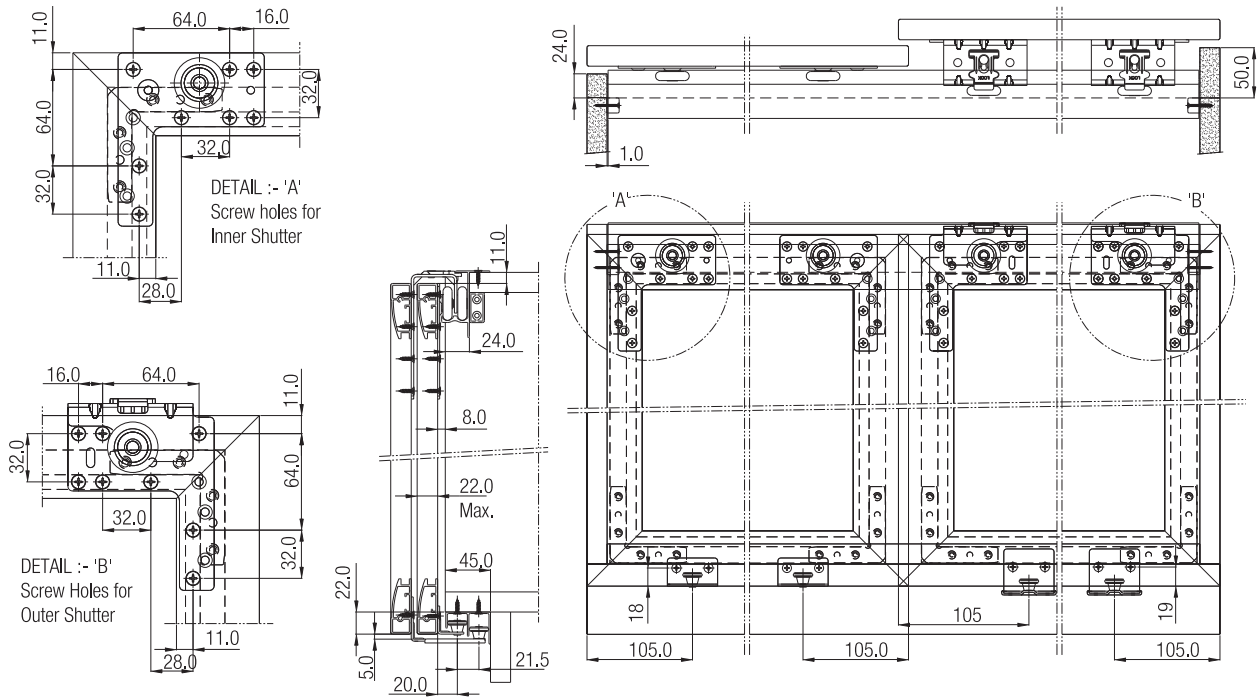
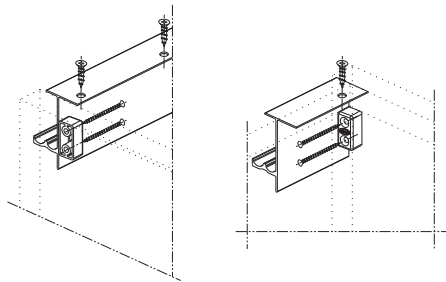
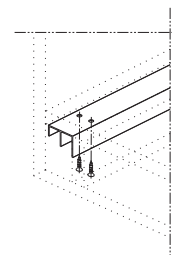

Fig. 1.
Fig. 2.
Fig. 3.
1. Fit the Top Track to the top face of the cabinet as shown in Fig 2. for dimensions refer Fig. 1.
2. Fit the Top Track support behind the top track & to the inner side face of the cabinet as shown in Fig 2.
3. Fit the Bottom Track to the bottom face of the cabinet as shown in Fig 3. (for Dimensions refer Fig. 1).
4. Fit the Top Hanger Outer to the inner face of the Outer Shutter & Top Hanger Inner to the inner face of the Inner shutter as shown in Fig 1.
6. Outer Shutter & Bottom Guide Inner to the inner face of the Inner shutter as shown in Fig 1.